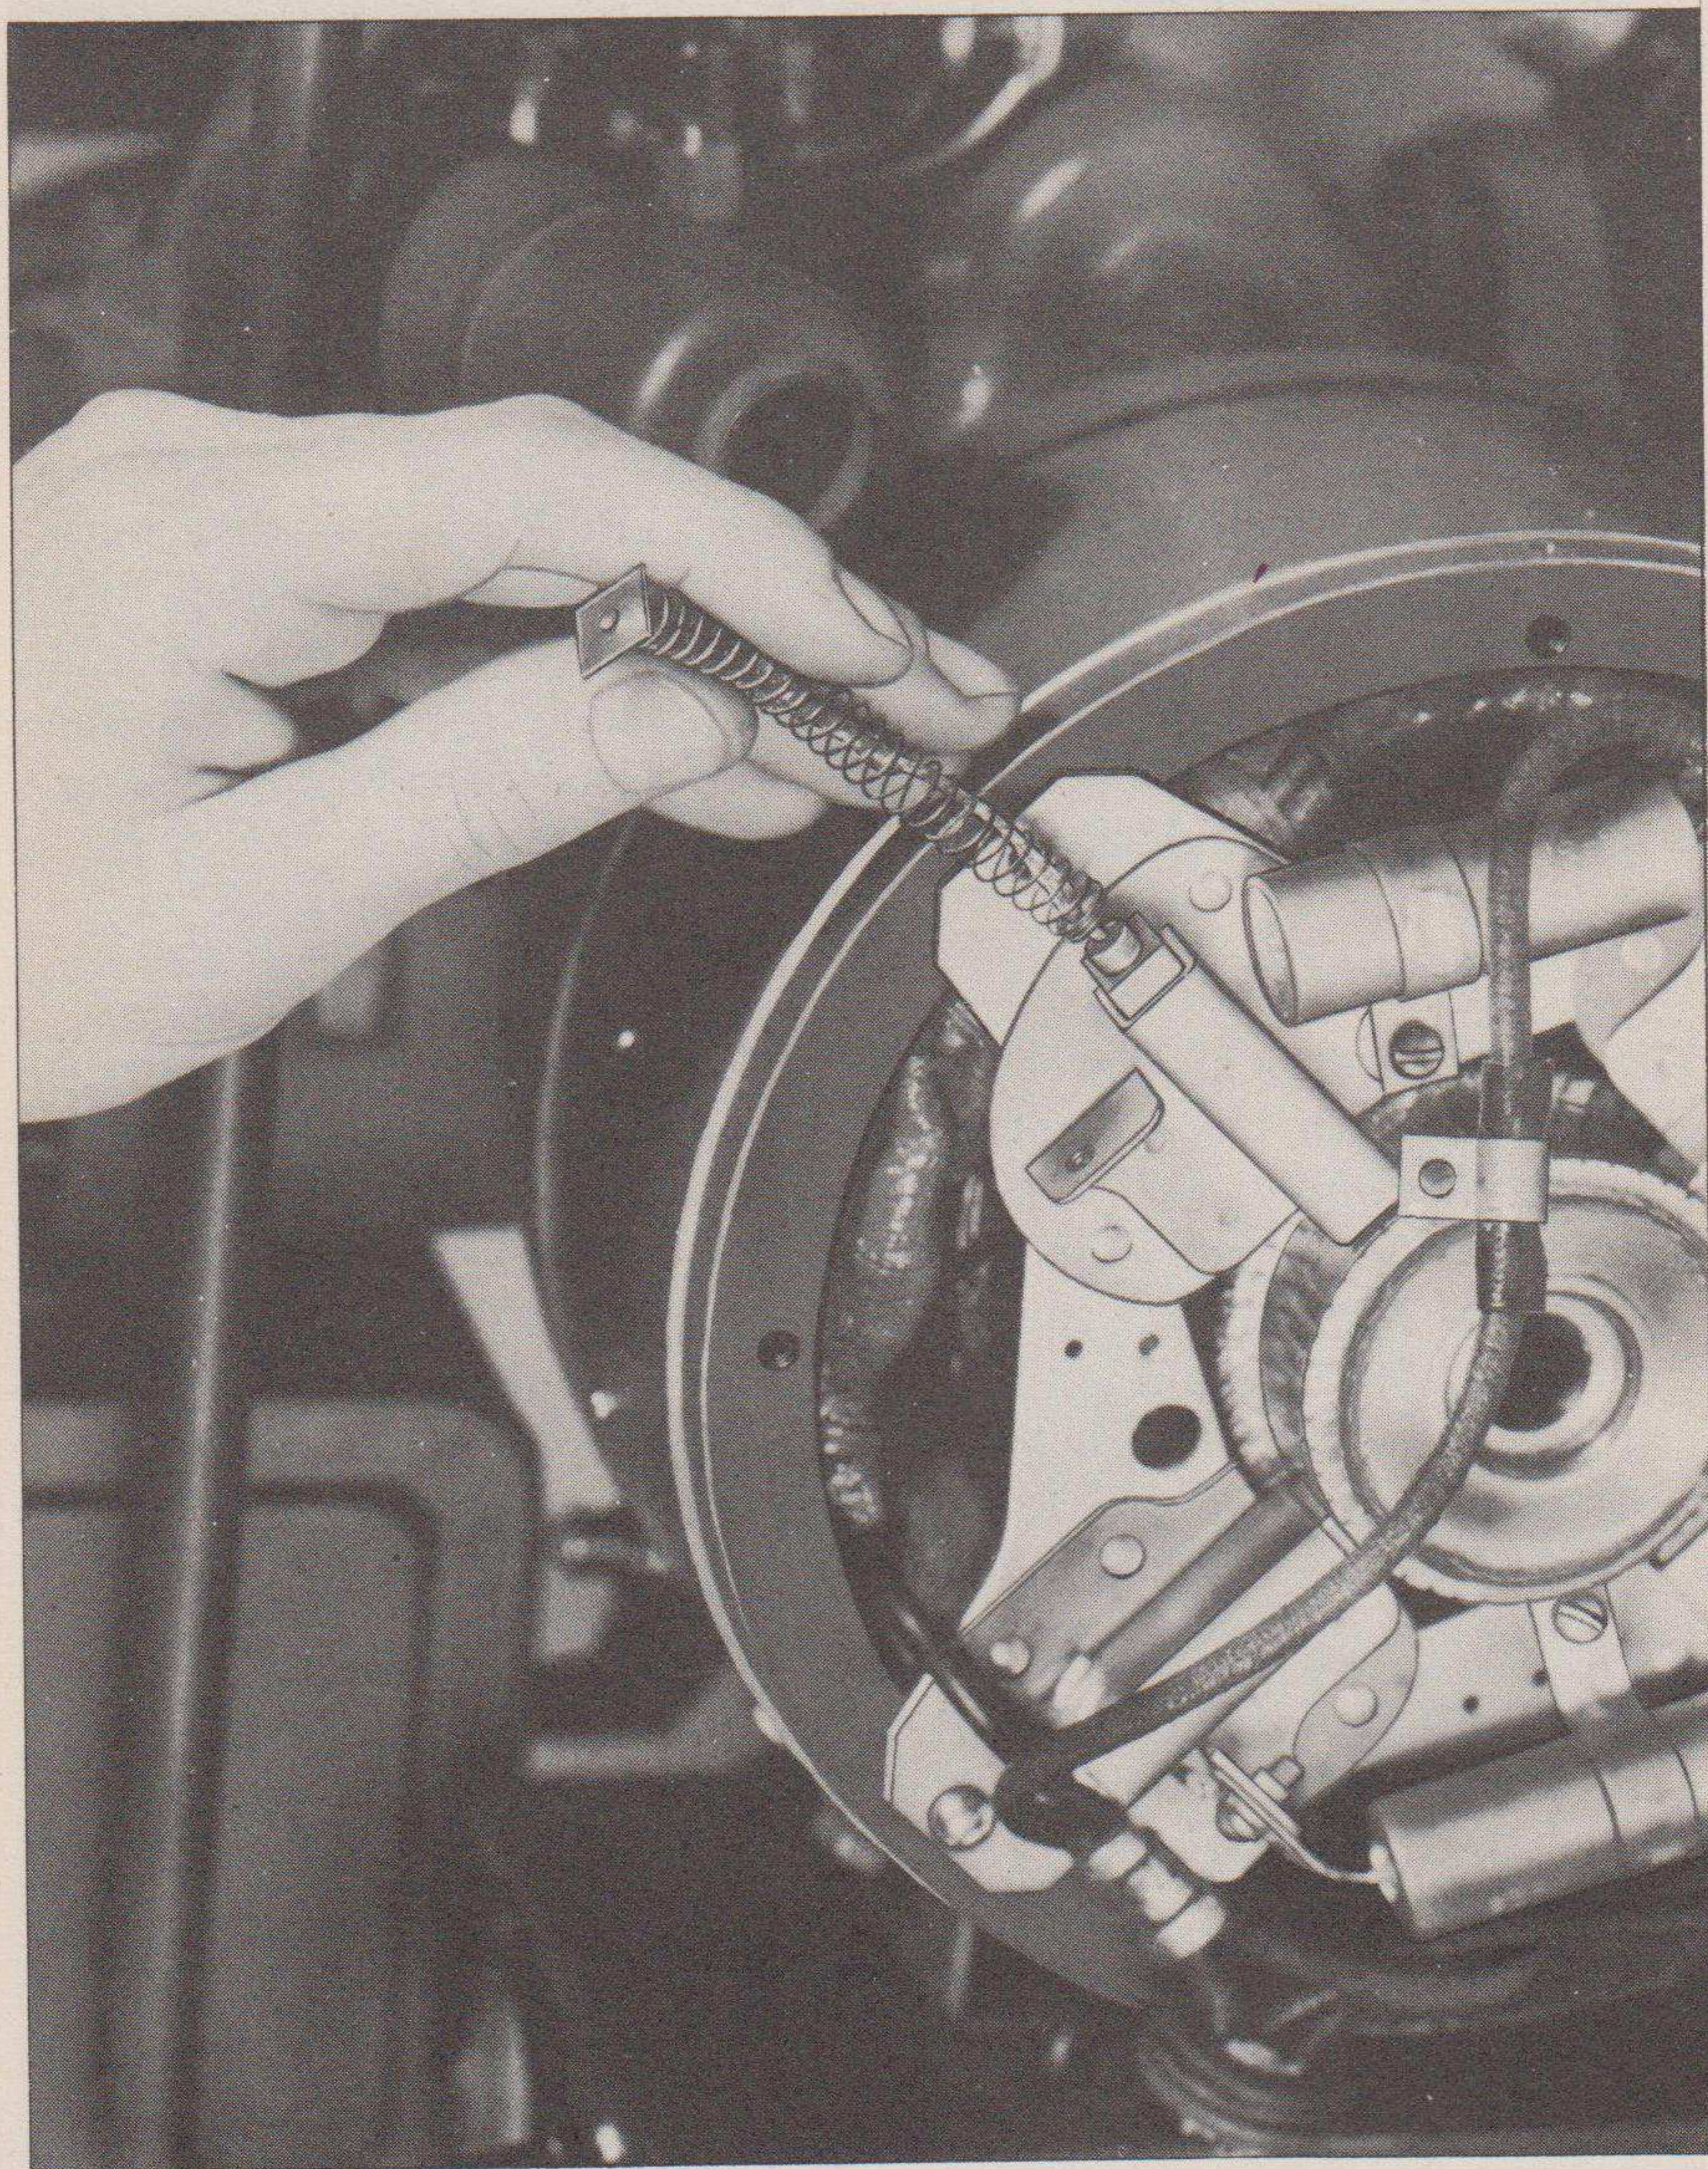

FIG. 16. BRUSH REMOVAL
(3) Damaged or dirty spark plug: Remove the spark plug. Lay it on the engine with high tension wire (45) connected and spin engine to check spark. If no spark occurs at the points, clean out plug or replace it with a new one. The spark plug points should be gapped to .035".
(4) Weak or intermittent spark: A weak spark is generally due to improper adjustment of the magneto points. Check point adjustment as directed in magneto adjustment instructions. (Para. 14, page 25.)
(5) Loose gasoline line connection: Fuel line packing nuts and all connections must be absolutely tight as an air leak will prevent a full charge of gasoline from entering the engine and will affect carburetion. Check all connections including fuel line shut-off. Periodically tighten all connections. Draw up packing nuts of fuel line and shut-off if necessary.
The generator of Power Unit PE-43-HK will require very little attention with the exception of replacement of the brush and spring assembly (125) (see Fig. 16, page 34) and occasional examination of the commutator to make sure there is a good electrical contact between it and the brushes. Oil, grease or dirt will affect the output of the generator and also cause sparking at the brushes. The generator may be inspected simply by removing the end cover (138) which is fastened to the generator frame by three machine screws (193).
b. To replace brushes.—The brush and spring assembly can be taken out by removing lock wires holding brush and spring in holder. (See Fig. 16, page 34.) Disconnect brush pigtail from brush holder. To install brush and spring assembly reverse the above procedure, being careful that the brushes seat firmly against the commutator, and move freely in the holders. New brushes should be fitted to have 100 percent effective surface contacting the commutator. To obtain this it is necessary to sand the brushes. This is accomplished by cutting a strip of 00 or 000